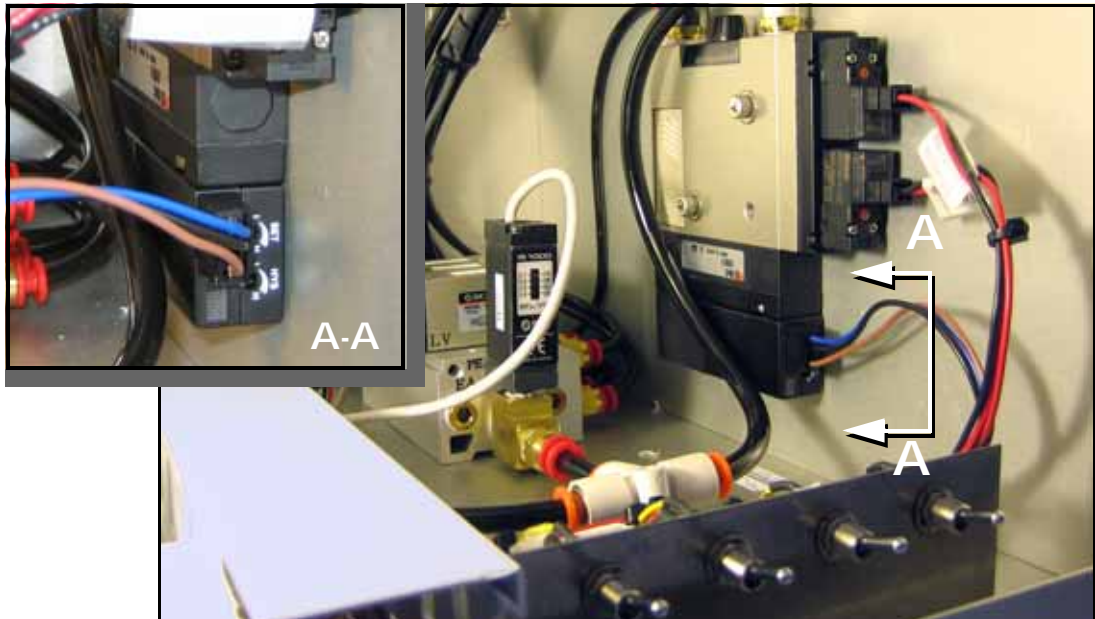

Figure 4-20: Tape Output vacuum generator adjustments.
- 2a. Locate the HYS and SET screws on the vacuum generator block. See Figure 4-20. Using a small, flat screwdriver, rotate the hysteresis (HYS) screw counterclockwise.